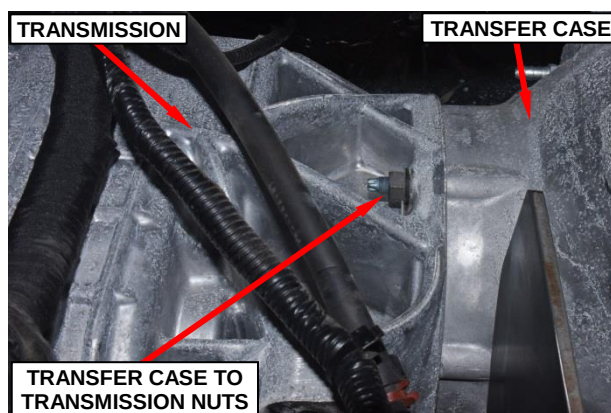

Figure 16 – Transfer Case Fastening
21. Remove and discard the transfer case-to-transmission nuts (Figure 16).
25. Install the new transfer case-to-transmission nuts. Tighten the nuts to 30 ft. lbs. (41 N·m) (Figure 16).